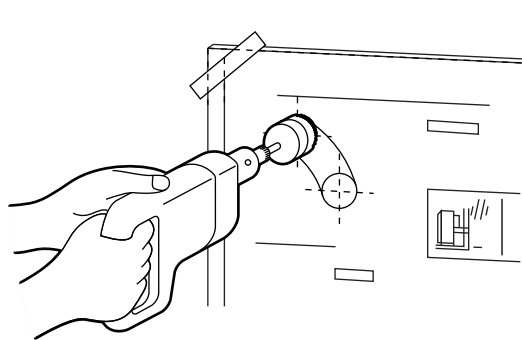

Fig. 5
- Install Balanced Flue (See Figs. 2, 3, & 4 Page 18 and Figs. 5, 6, 7, & 8, Page 19). Note the volume and temperature of the hot exhaust gas that discharges to outside is minimal and does not create condensate, but ensure FLUE OUTLET is at least 600 - 800mm clear of plants, shrubs, and any outdoor materials that can form debris that might later restrict the flow of combustion air and exhaust gases. See clearances Page 18, Figs1, 2 & 3.